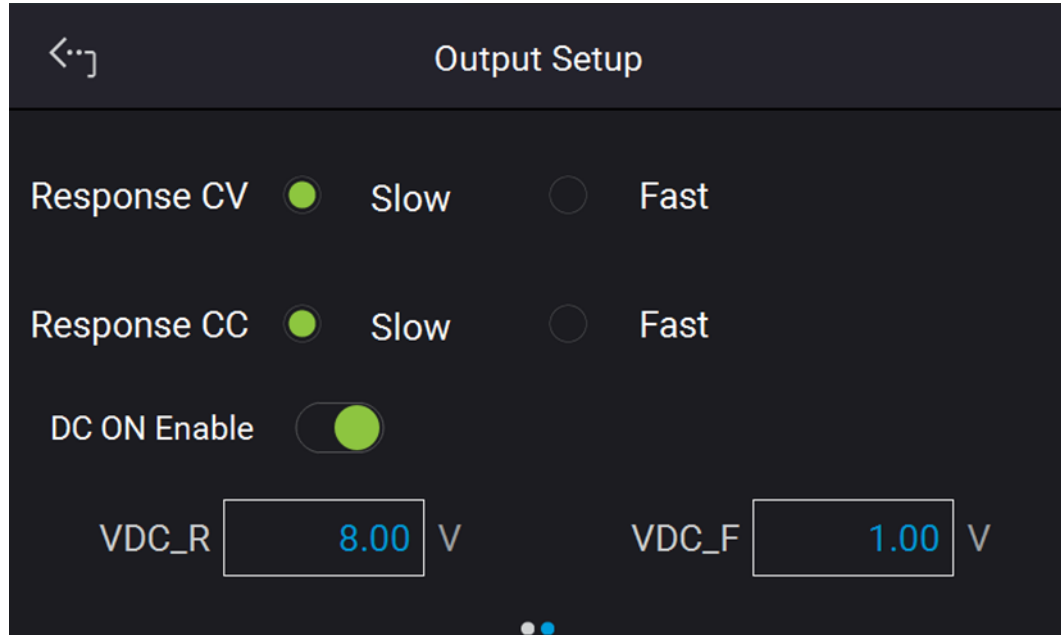

Figure 3-7
Tap “Output Setup” in Menu screen to enter the setup page as Figure 3-7 shows.
The values (for reference only) in Figure 3-7 are not the default settings of DC power supply.
1. The setting page is shown as Figure 3-7. Use the touch panel to enter the value. The low limit of DC_ON RISE/FALL is 0V and high limit is 600V.